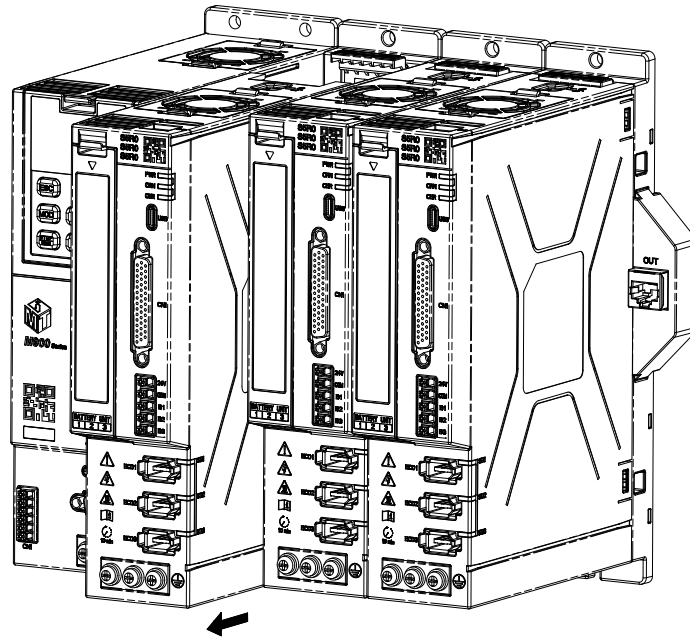

Figure 4-9 Disassemble the drive module
2. As shown in Figure 4-9, hold the front upper and lower sides of the drive module to be disassembled with both hands, and pull it out vertically and outward with force to disassemble the drive module. After disassembling the drive module, the buckle on the bottom plate will automatically return to its original position.
1. According to the above method (Figure 4-9), disassemble the first drive module on the right side of the power module;